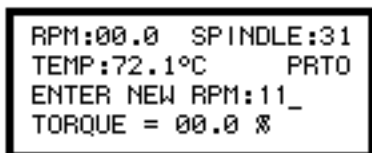

Figure 8
- 3) Enter the required speed by pressing the appropriate numeric keys. Figure 8 shows 11 rpm has been entered.
- 5) Viscosity, % Torque, Shear Rate and Shear Stress values are alternately displayed by pressing the SELECT DISP key to scroll through the values. Figure 8 shows the display for % torque. To run other speeds, repeat Steps 3 and 4.
- 6) Stop the motor by either pressing the MOTOR ON/OFF key, or by setting the motor speed to zero (0) RPM as per steps 3 and 4 above.